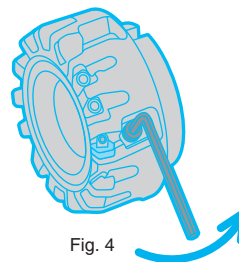

Fig. 4
4. Loosen the cartridge clamp screw. (Fig. 4)